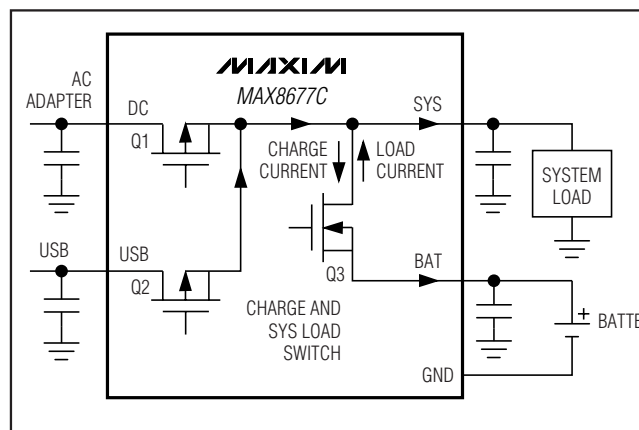

Figure 4. Smart Power Selector Block Diagram
The MAX8677C Smart Power Selector seamlessly distributes power between the external inputs, the battery, and the system load (Figure 4). The basic functions performed are:
An internal 40mΩ MOSFET connects SYS to BAT (Q3, Figure 4) when no voltage source is available at DC or USB. When an external source is detected at DC or USB, this switch is opened and SYS is powered from the valid input source through the input limiter.
The input voltage limiter is essentially an LDO regulator. While in dropout, the regulator dissipates a small I^2R loss through the 0.2Ω MOSFET (Q1, Figure 4) between DC and SYS. With an AC adapter or USB source connected, the input limiter distributes power from the external power source to the system load and battery charger. In addition to the input limiter's primary function of passing power to the system and charger loads at SYS, it performs several additional functions to optimize use of available power:
- **Input Voltage Limiting.** If an input voltage is above the overvoltage threshold (6.9V typ), the MAX8677C enters overvoltage lockout (OVLO). OVLO protects the MAX8677C and downstream circuitry from high-voltage stress up to 14V at DC and 8V at USB. In OVLO, VL remains on, the input switch that sees overvoltage (Q1, Q3, Figure 4) opens, and the appropriate power-monitor output ($\overline{DOK}$, $\overline{UOK}$) is high impedance, and $\overline{CHG}$ is high impedance.
If both DC and USB see overvoltage, both input switches (Q1 and Q2, Figure 4) open and the charger turns off. The BAT-SYS switch (Q3, Figure 4) closes, allowing the battery to power SYS.
An input is also invalid if it is less than BAT, or less than the DC undervoltage threshold of 3.5V (falling). With an invalid input voltage, SYS connects to BAT through a $40m\Omega$ switch (Q3, Figure 4).
The total current through the switch (Q1 or Q2 in Figure 4) is the sum of the load current at SYS and the battery charging current. The limiter clamps at 4.35V, so input voltages greater than 4.35V can increase power dissipation in the limiter. The limiter power loss is $(V_{DC} - 4.35) \times I$, but not less than $I^2 \times 0.2\Omega$. Also note that the MAX8677C turns off any input that exceeds 6.9V (nominal).